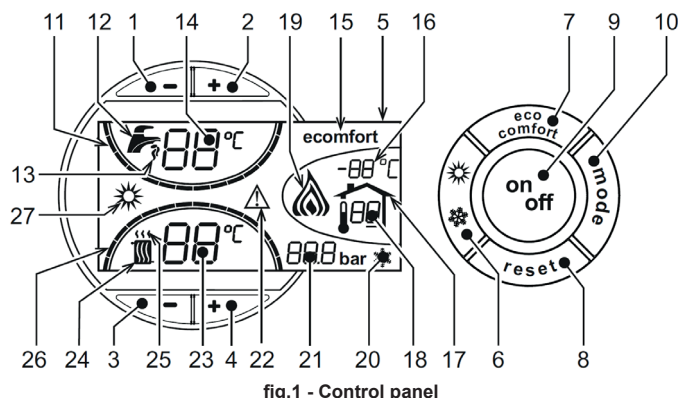
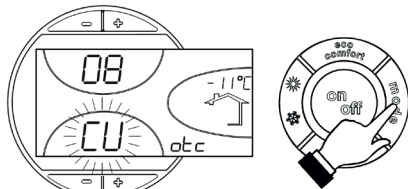
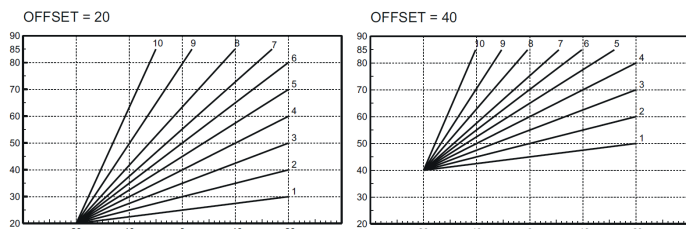

fig.1 - Control panel
fig.13 - Compensation curve
fig.16 - Example of parallel offset of the compensation curves
A heating demand (generated by the room thermostat or the remote timer control) is indicated by the flashing of the hot air symbol above the radiator symbol (24 and 25 - fig.1).
The heating graduation marks (26 - fig.1) light up in sequence as the heating temperature reaches the set value.
A domestic hot water demand, generated by opening a hot tap, is indicated by the flashing of the hot water symbol below the tap symbol (12 and 13 - fig.1).
The DHW temperature indicators (11 - fig.1) light up gradually as the respective sensor detects that the set value is being reached.
The need to restore the internal temperature of the boiler (Comfort mode) is indicated by the flashing of the respective symbol (15 and 13 - fig. 1).
Operation of the storage tank (heating and temperature maintenance) can be deactivated by the user. In this case, no domestic hot water is supplied. When the storage tank is activated (default option), the COMFORT symbol appears on the display (15 - fig.1); if it is deactivated, the ECO symbol is displayed (15 - fig.1). To deactivate the heater and set ECO mode, press the eco/comfort key (7 - fig.1). To return to COMFORT mode, press the eco/comfort key again (7 - fig.1)
Press the on/off key (9 - fig.1) for 1 second.
To reactivate the boiler, press the on/off key again (9 fig.1) for 1 second.
Press the summer/winter (6 - fig.1) for 1 second.
The Summer symbol appears on the display (27 - fig.1): the boiler supplies domestic water only. The antifreeze system remains operational.
To deactivate Summer mode, press the summer/winter (6 - fig.1) for 1 second.
Using the keys (3 y 4 - fig.1) the heating temperature can be adjusted from a minimum of 30 °C to a maximum of 80 °C.
Using the DHW keys (1 y 2 - fig.1) the temperature can be adjusted from a minimum of 40 °C to a maximum of 65 °C.
If the external sensor (optional) is installed, the instantaneous temperature measured by that sensor appears on the control panel display (5 - fig.1) The boiler control system works with "Adaptive temperature". In this mode, the temperature of the heating circuit is regulated according to the outdoor weather conditions, in order to ensure greater comfort and energy savings throughout the year. In particular, as the outdoor temperature rises, the heating flow temperature decreases, according to a given compensation curve.
During operation with adaptive temperature, the temperature set using the heating keys +/- (3 y 4 - fig.1) becomes the maximum flow temperature to the system. It is
If the mode key is pressed once (10 - fig.1), the current compensation curve is displayed (fig.13), which can be modified using the domestic hot water keys (1 and 2 - fig.1).
If the heating keys (3 y 4 -fig.1) are pressed, the parallel offset of the curves is accessed (fig.16), which can be modified using the domestic hot water keys (1 y 2 - fig.1).
When the mode (10 - fig.1) key is pressed again, the parallel curve adjustment mode is exited.
In addition, the current room temperature measured by the remote timer control appears on the control panel display (5 - fig.1).
Eco/Comfort selection	If domestic hot water operation is deactivated from the remote timer control menu, the boiler selects Economy mode. In this condition, key 7 - fig.1 on the boiler panel is disabled. If domestic hot water operation is reactivated with the remote timer control, the boiler is set to Comfort mode. In this condition, it is possible to switch from one mode to the other with key 7 - fig.1 on the boiler panel.